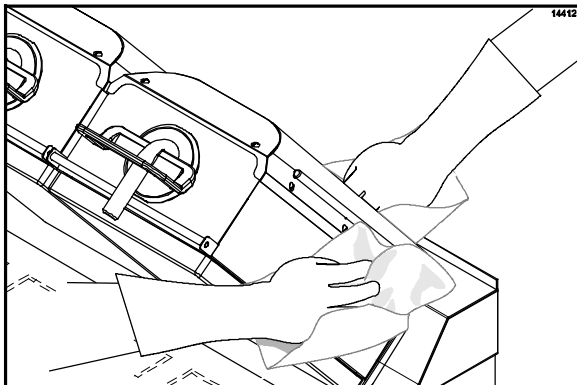

Figure 60
32. Rinse the front, side, and back of the platen surfaces with a clean, sanitizer-soaked grill cloth, starting from the right platen to the left platen. (See Figure 60.)